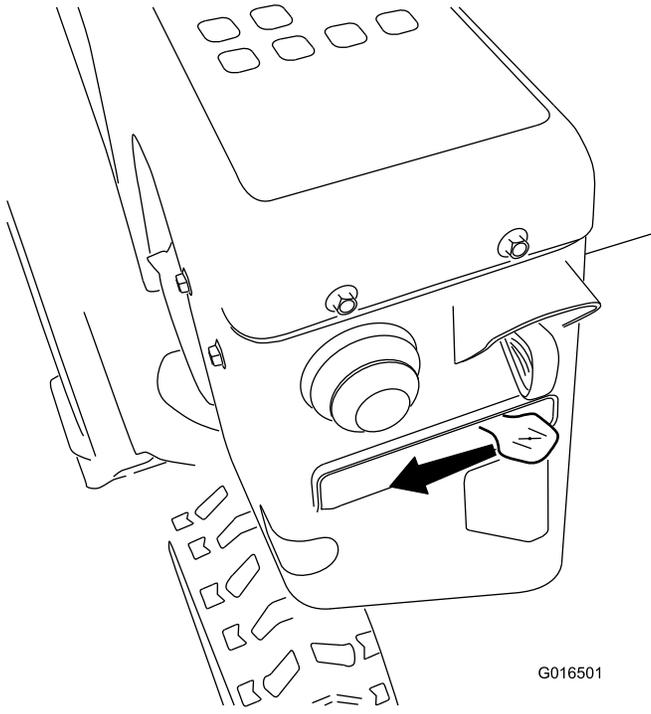

Figure 30
5. Move the choke to the CHOKE position (Figure 30).